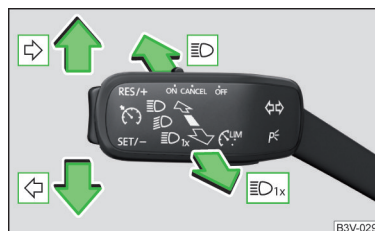

Fig. 67
Control stalk positions » Fig. 67
- › Press the control lever all the way into position \rightarrow or \leftarrow until it stops » Fig. 67 on page 71.